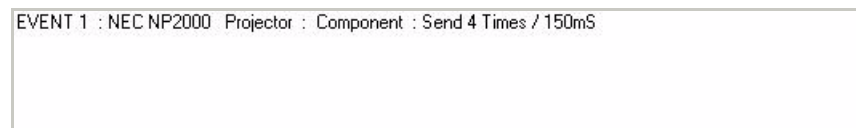

FIG. 33 Adding a RS232 Command to the Script
4. When the RS232 parameters have been set, click **Add to Script** to add this RS232 command to the script (FIG. 33).